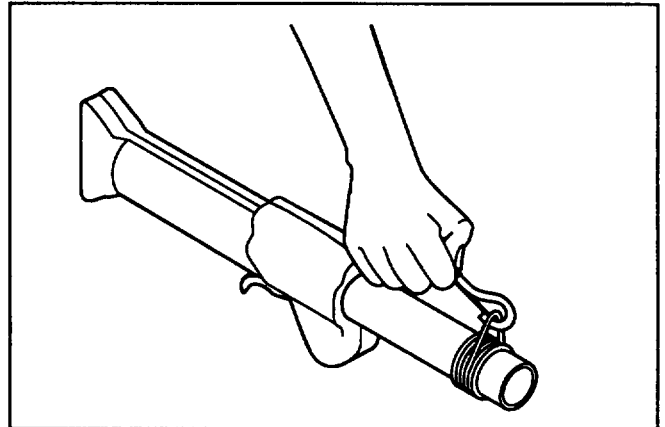

Fig. 3
3. Hook the snap at the end of the shoulder strap onto the wire connector (Fig. 3). Adjust the length of the strap.